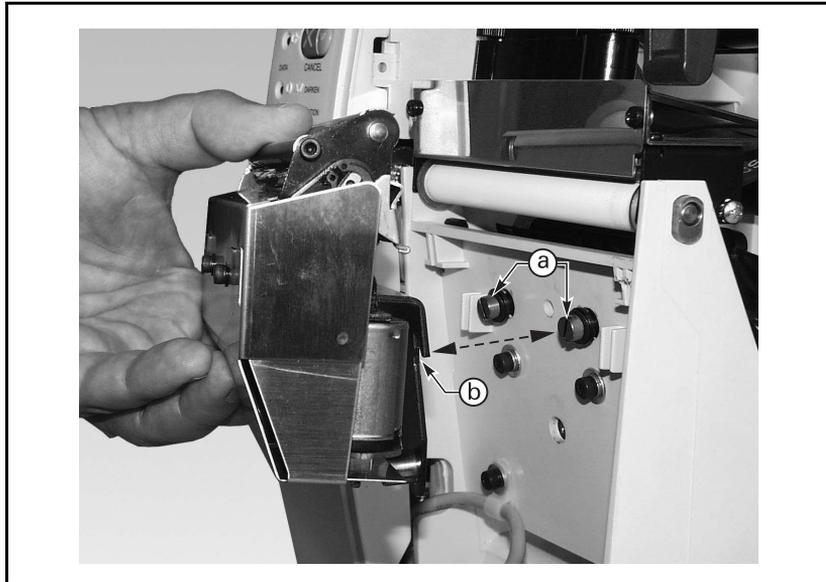

Figure 19. Cutter Module Removal
6. See Figure 19. Hold the cutter module as shown. Apply gentle upward pressure to the left and right ends while raising the cutter module up and away from the mounting posts (a). If necessary, rock the module side to side to loosen it.
1. See Figure 19. Position the cutter module above the cutter mounting posts (a). Press down on the cutter module until the mounting slots (b) engage the mounting posts on the printer.